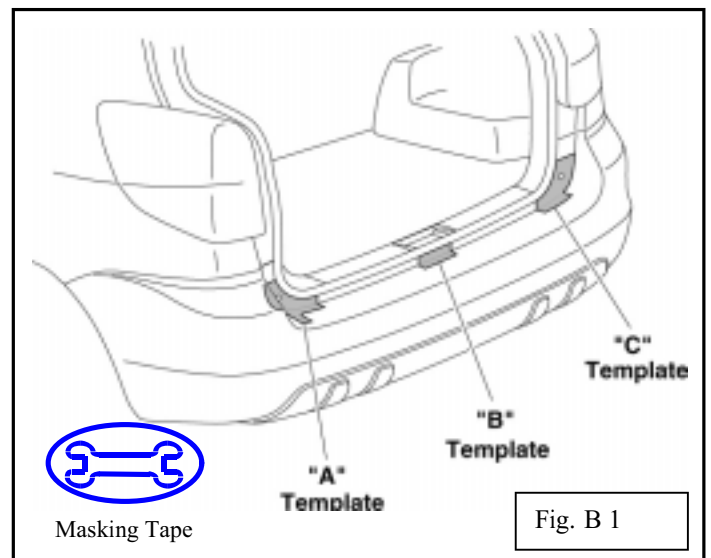

Fig. B 1
-  2. Fold template "A," "B," and "C" where noted and tape them in place as shown in Fig. B 1.